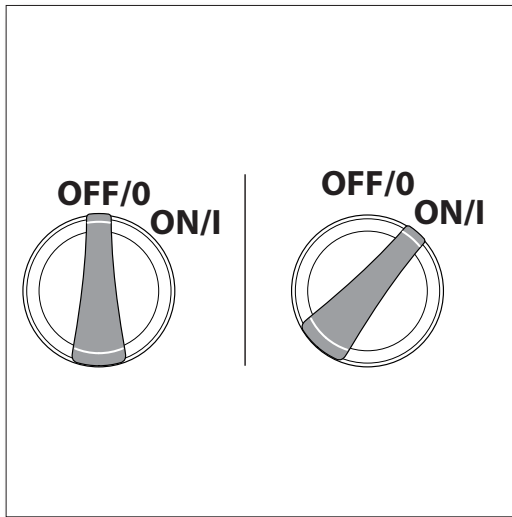

Fig. 18
- Make sure the “ON/OFF” switch is in the “OFF” position. The power switch has international symbols for ‘on’ and ‘off’: On (I) Off (O), (Fig. 18).